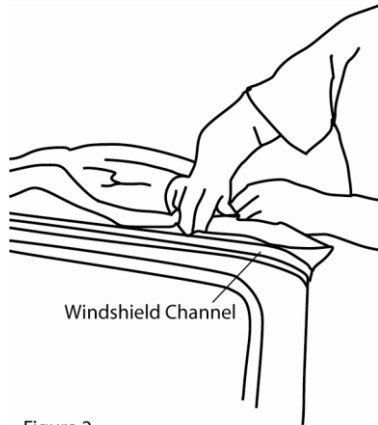

Figure 2
Step 7. Insert front plastic into the groove of the Windshield Channel. The ends will match nearly to each end of the Windshield Channel. From the front of the vehicle, check to make sure that the top is even from side to side. Check the door surround sides and push the top towards the rear to make sure the fabric is seated tightly around the front corners. Now snap the front snaps on the door surrounds. See Figure 2.